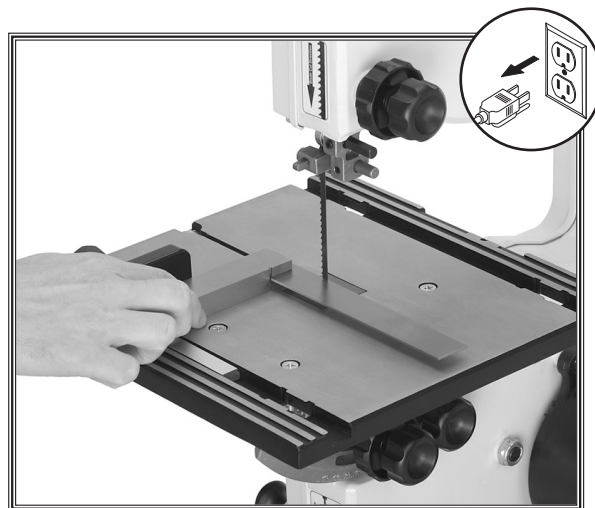

Figure 37. Example of squaring miter gauge to blade.
2. Place one edge of a machinist's square against the face of the miter gauge and the other against the blade face as shown in **Figure 37**.